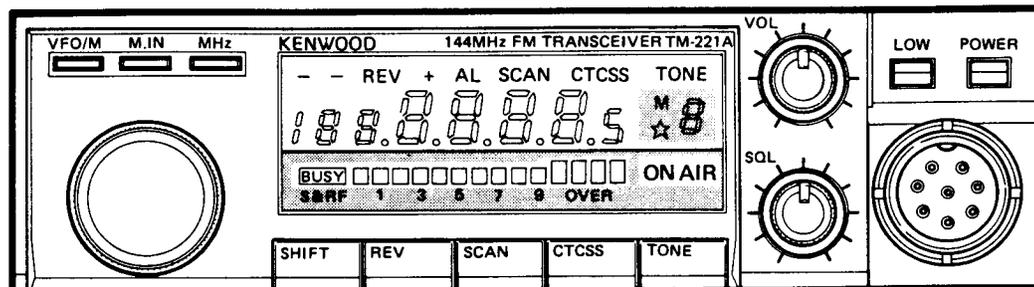

Fig. 19
- 6) Meter and display section should be set as follows **Fig. 19**.